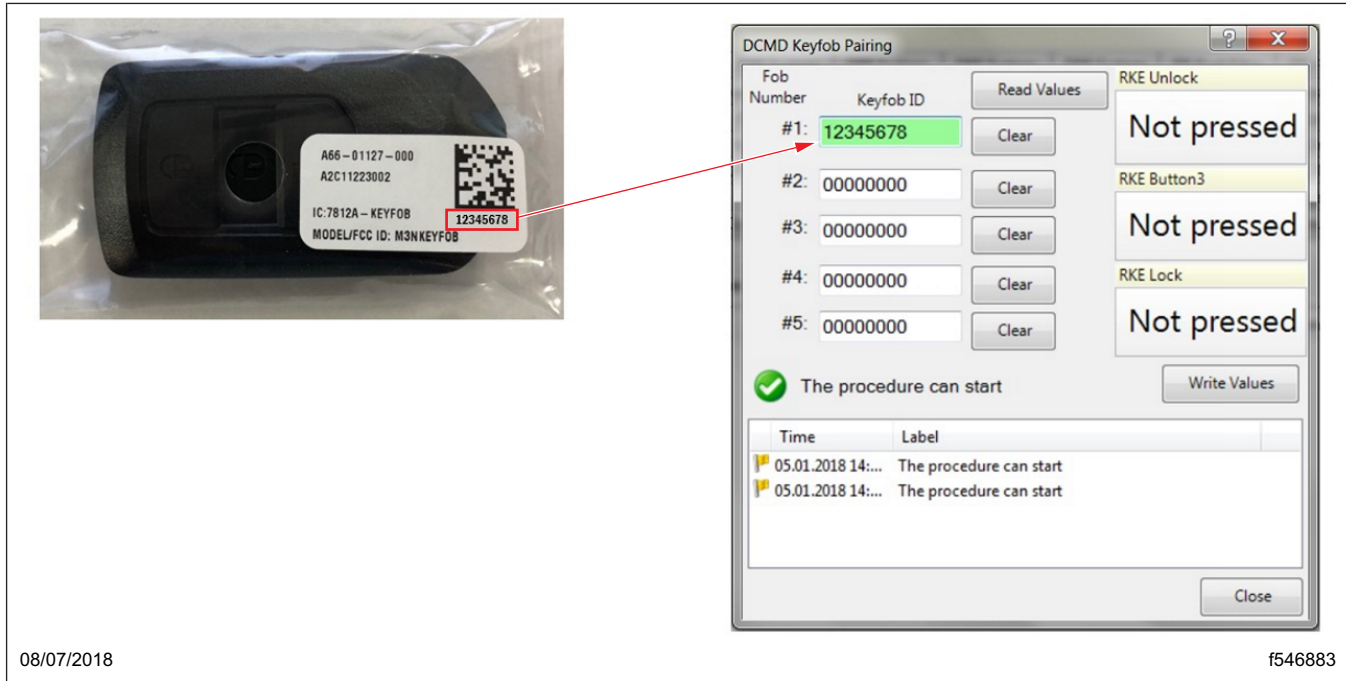

Fig. 2, Entering the Key Fob ID in DiagnosticLink
- On the "DCMD Keyfob Pairing" panel, enter the 8-digit alphanumeric key fob ID from the packaging, located under the QR code. See Fig. 2. Press the "Write Values" button to record the IDs.